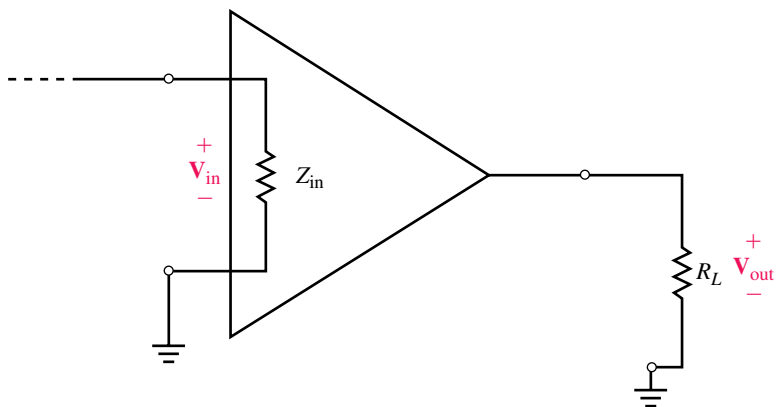

FIGURE 22–43
2. If the amplifier of Figure 22–43 has $Z_{in} = 600 \Omega$ and $R_L = 2 \text{ k}\Omega$, find P_{in} , P_{out} , and $A_p(\text{dB})$ for the following voltage levels:
3. The amplifier of Figure 22–43 has $Z_{in} = 2 \text{ k}\Omega$ and $R_L = 10 \Omega$. Find the voltage gain and power gain both as a ratio and in dB for the following conditions: